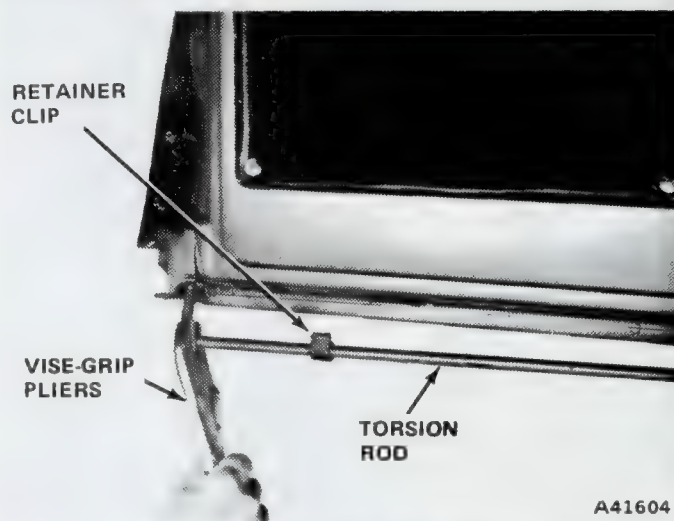

Fig. 3H-40 Torsion Rod Removal
- (1) Open tailgate vertically to expose torsion rod attachment at right lower hinge.
- (2) Remove torsion rod retainer clip screw.
- (3) Using Vise-Grip pliers, twist torsion rod slightly clockwise and pull it out of lower hinge (fig. 3H-40).